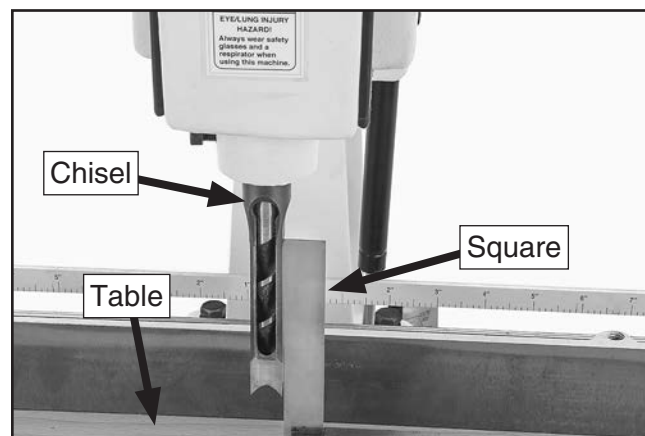

Figure 16. Squaring chisel to table.
- Place square vertically on table, allowing edge to rest against side of chisel, as shown in **Figure 16**.